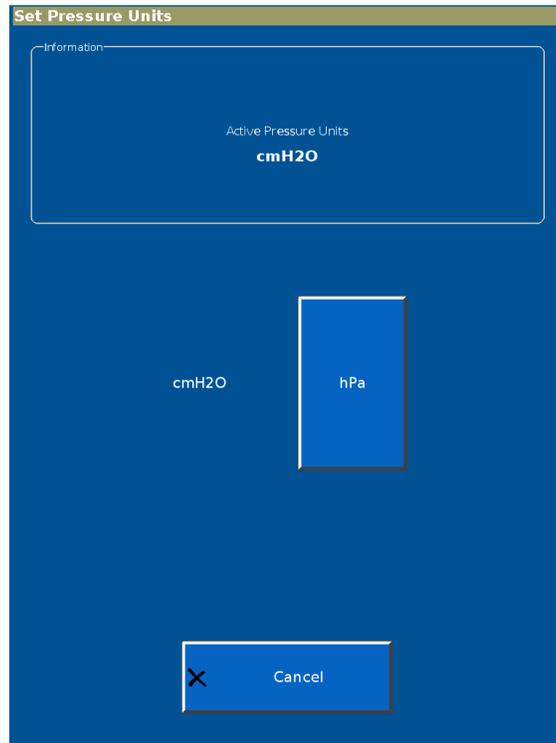

Figure E-6: Set Pressure Units screen
1. From the **System Settings** screen, select **Pressure Units** to display the **Set Pressure Units** screen (Figure E-6).